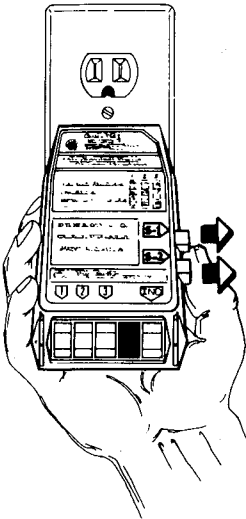

Figure 10
Step 1. Be sure the black (S-1) button and red (S-2) button are out (Fig. 10).